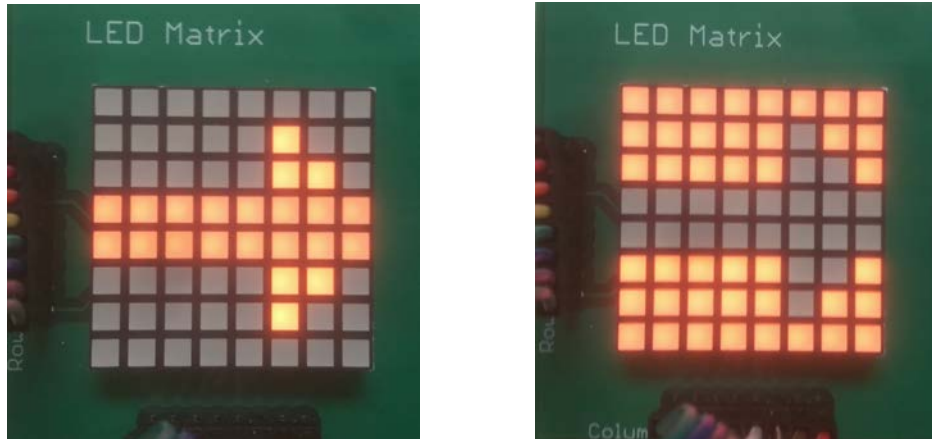

Figure 3: Example of Positive Display (Left) and Negative Display (Right)
3. When the 'Reset' button is pressed, the LED display is to toggle between displaying the images in positive or in negative, as shown in Figure 3.